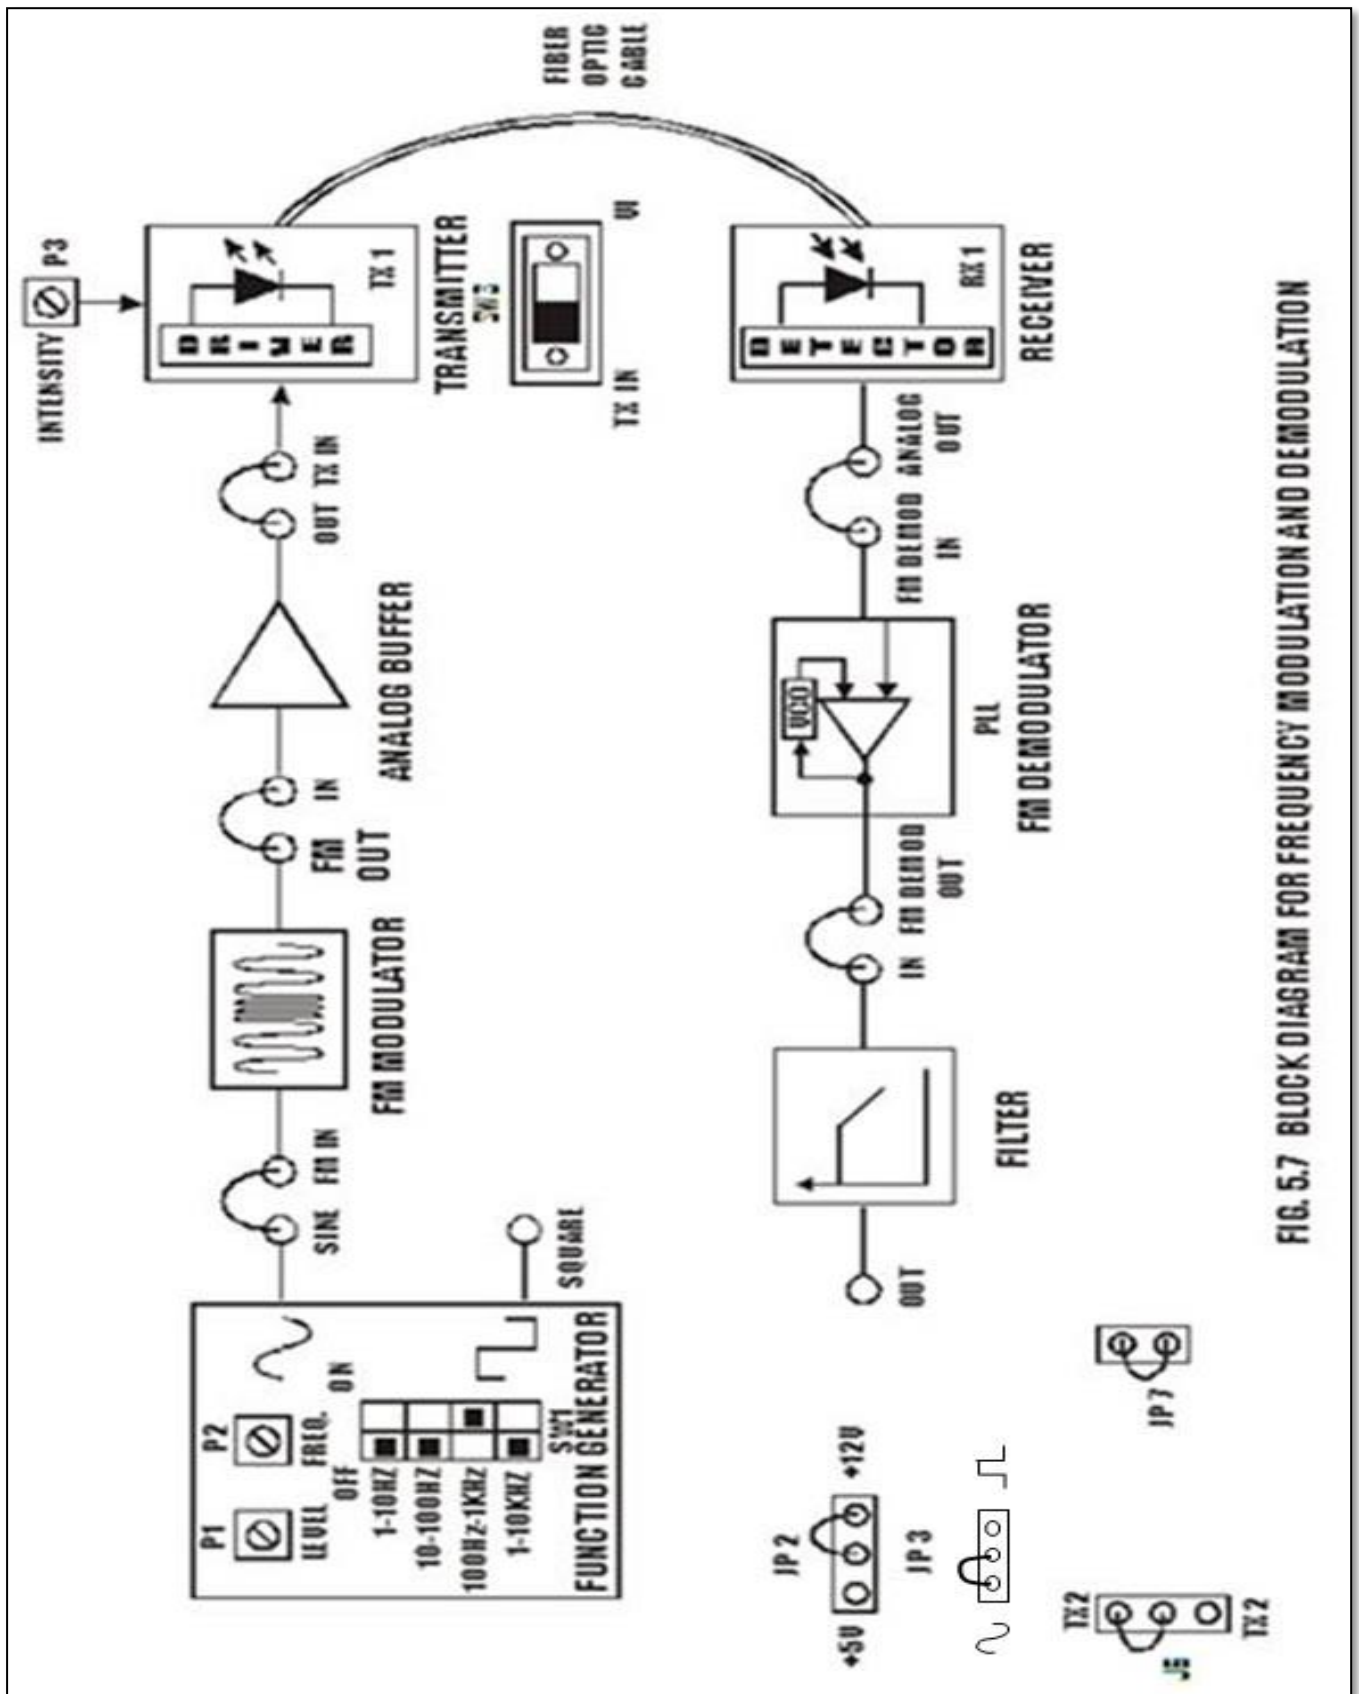

FIG. 5.7 BLOCK DIAGRAM FOR FREQUENCY MODULATION AND DEMODULATION
- Make the connections and Jumper settings as shown in **FIG. 5.7**. Connect the power supply cables with proper polarity to kit. While connecting this, ensure that the power supply is OFF.